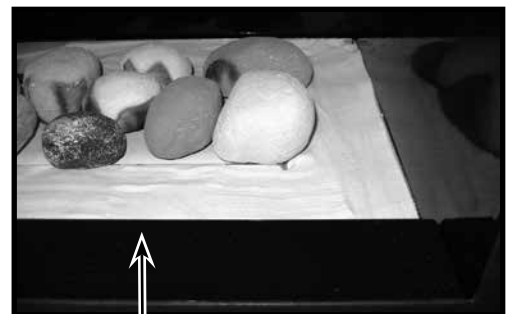

Figure 42: Front panel location.
5. Place the front panel on the front lip of the firebox, wide flange facing the front (Figure 42) (Proceed to step #7 if you are installing a 22150070 Black Diamond burner with this unit.)